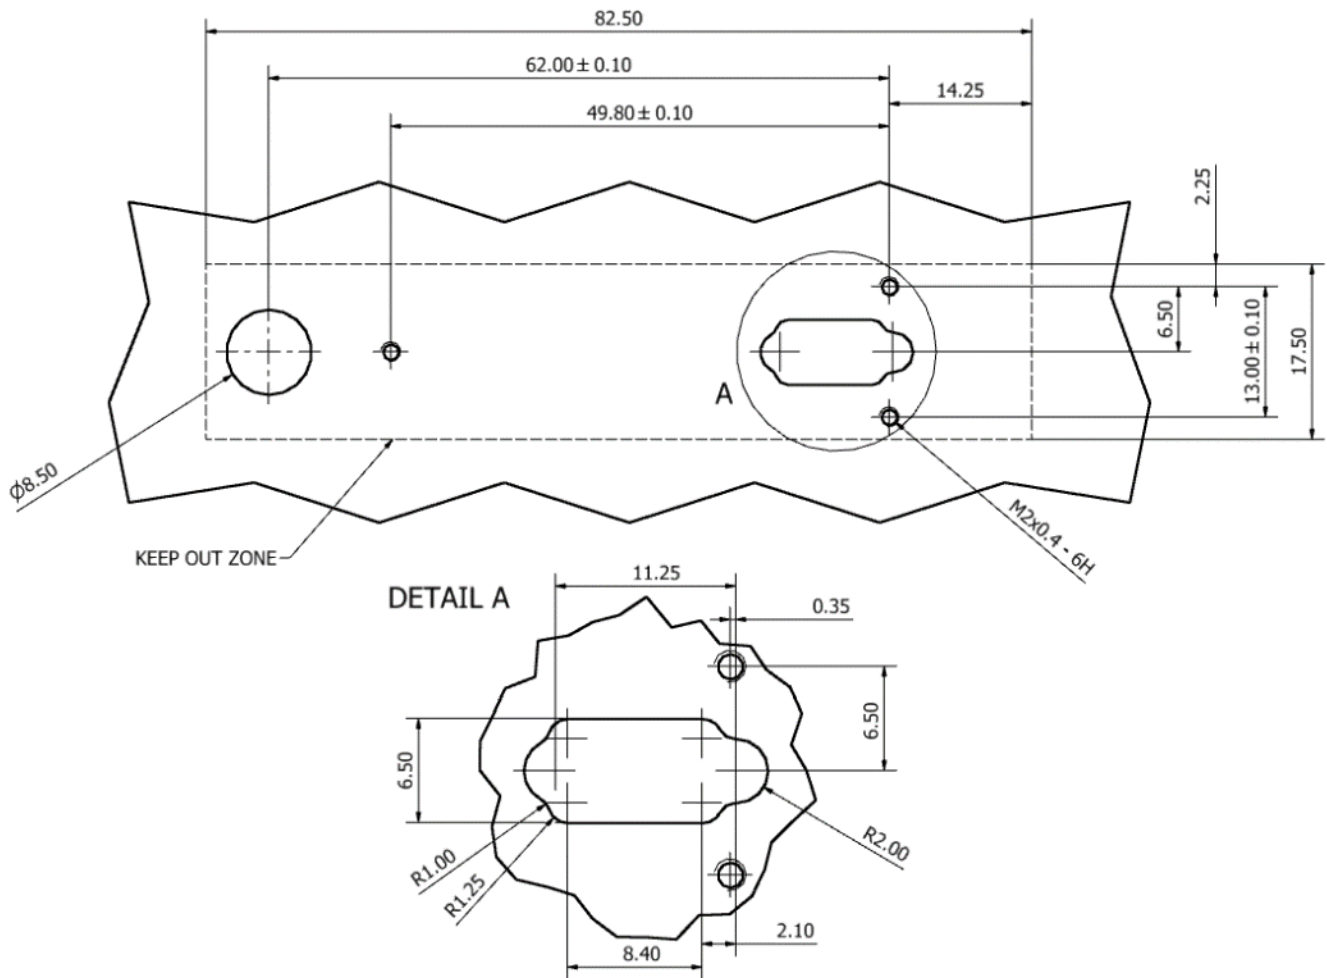

Figure 5: Panel Cut-Outs Required to Mount CubeMag Deployable
The hole placement and panel cut-outs required for mounting of the magnetometer are shown in Figure 5. The dashed line represents the area the magnetometer will occupy, when in the stowed state, and must not be impinged upon.
Mounting of the deployable magnetometer is performed by way of three (3) non-ferrous M2 screws (refer to Figure 5 for screw hole locations) that pass through the magnetometer and thread into the panel onto which the magnetometer is mounted. Alternatively, the screws may pass through both the magnetometer and mounting panel and then secured with nuts on the inside of the panel.